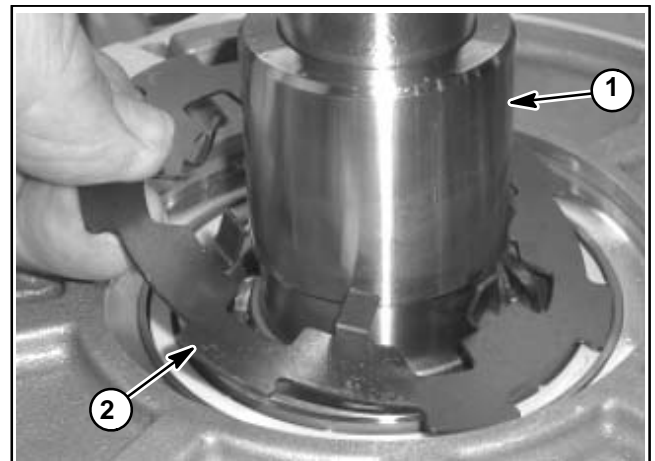

Figure 22
4. Set the armature plate onto the coil located in the cover plate (Fig. 22). The internal tangs of the armature plate should face up as shown.